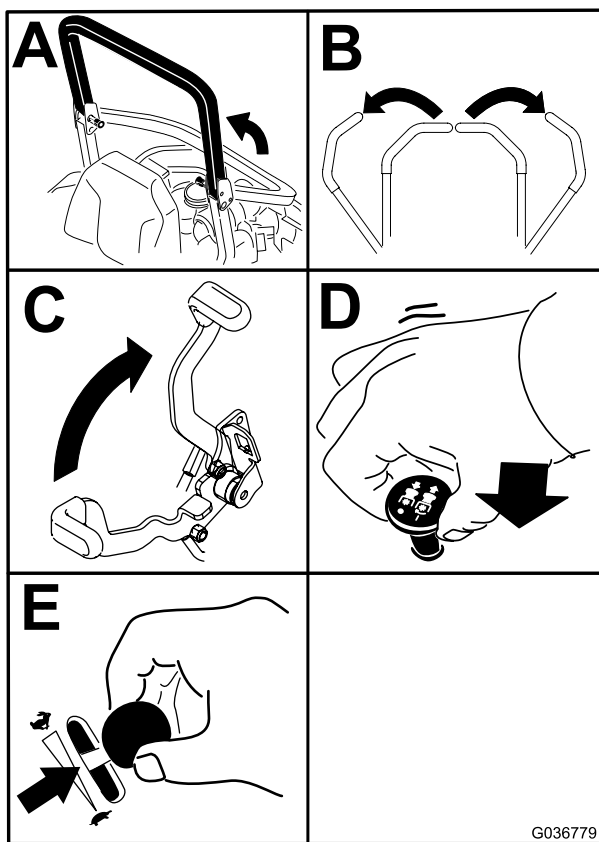

Figure 24
4. Move the blade-control switch (PTO) to the OFF position (Figure 24).